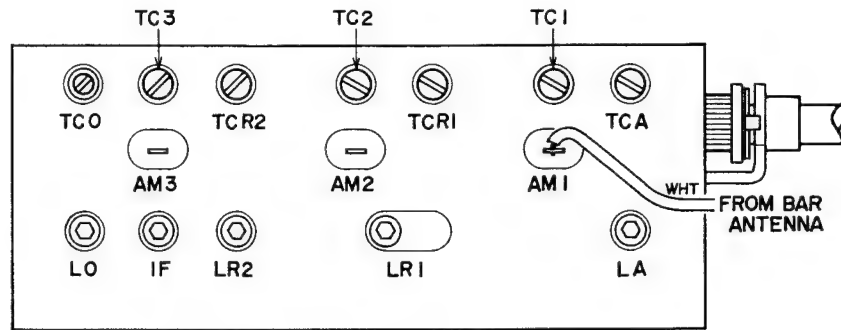

Fig. 22
- 6) Adjust front end trimmer condensers in Figs. 22, 24 until the distortion meter level is maximum and the distortion factor is minimum. (Refer to Chart 6)
- 9) Adjust front end trimmer condensers in Figs. 22, 24 until the distortion meter level is maximum and the distortion factor is minimum. (Refer to Chart 7)